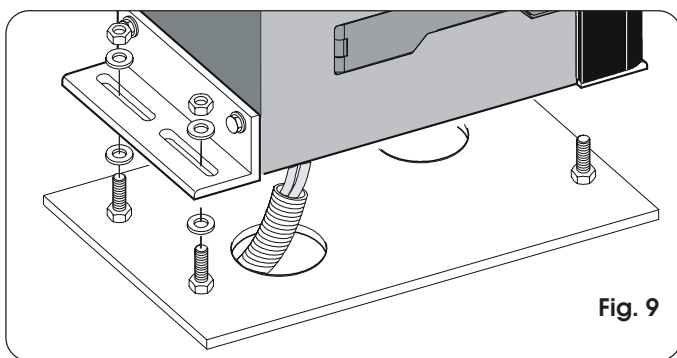

Fig. 9
- 3) Place the operator on the plate, using the supplied washers and nuts as shown in Fig. 9.